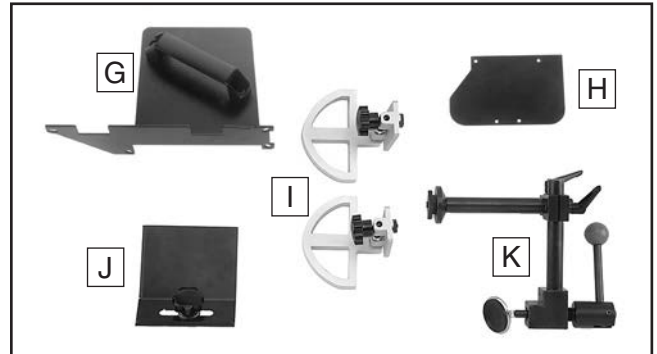

Figure 14. Box 5 & 6 contents.
- Box 5 & 6: (Figure 14)** Qty